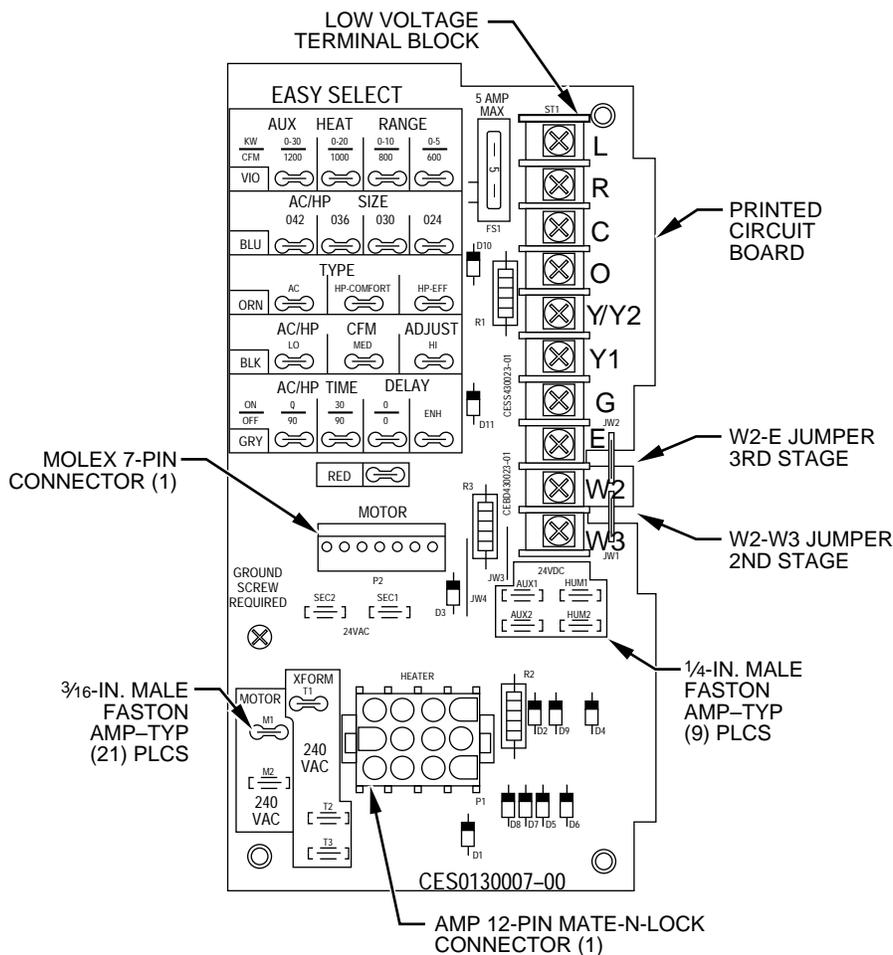

Fig. 16—Easy Select Board
NOTE: Layout of actual PCB is depicted in Fig. 16 and 17.
The Easy Select taps are used by installer to configure system. The ICM2 uses selected taps to modify its operation to a pre-programmed table of airflows. Airflows are based on system size or mode of operation and those airflows are modified in response to other inputs such as the need for de-humidification. (See Fig. 16.)
will run the higher of heat pump efficiency airflow and electric heater airflow. The factory selection is largest heater range approved. (See Fig. 16.)
The factory setting for air conditioner or heat pump size is largest unit meant for application with model of fan coil purchased. The installer needs to select air conditioner or heat pump size to ensure that airflow delivered falls within proper range for size of unit installed in all operational modes. (See Fig. 16.)
The factory setting is AC. (See Fig. 16.)
Select low, medium, or high airflow. To provide any of these airflows, AC/HP ADJUST select must be moved to MED position. The factory selection is LO. The adjust selections HI/LO will regulate airflow supplied for all operational modes, except non-heat pump heating modes, +10 percent and -10 percent respectively. The adjust selection options are provided to adjust airflow supplied to meet individual installation needs for such things as noise, comfort, and humidity removal. (See Fig. 16.)
Select desired time delay profile. Four motor operation delay profiles are provided to customize and enhance system operation. (See Fig. 16.) The selection options are:
1. Check low-voltage transformer leads (red and brown). Be sure they are wired to correct locations. (See Fig. 16 and 18.)
2. Check output voltage of transformer secondary side SEC2 and SEC1. Be sure transformer output is around 24 vac. If transformer output is zero vac and transformer is receiving correct input voltage (208v or 240v), then transformer needs to be replaced with recommended transformer. If transformer output is 24 vac, proceed to items 3 and 4.
3. Check low-voltage fuse shown in Fig. 16. If fuse is blown, replace it. The transformer cannot supply power to board with fuse blown or loose. If fuse blows when unit has power applied to it, the system most likely has 1 of the following problems: